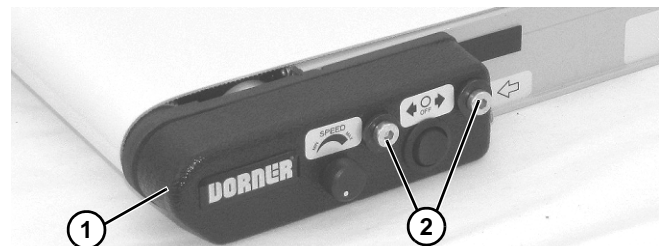

Figure 67
7. Install inframe drive side cover (**Figure 67, item 1**) with two head plate fastening screws (**Figure 67, item 2**).